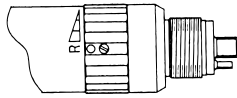

Fig. 4
- (2) Reverse Rotation : Turn the FWD/REV Change Ring to “R” as shown in Fig.4.